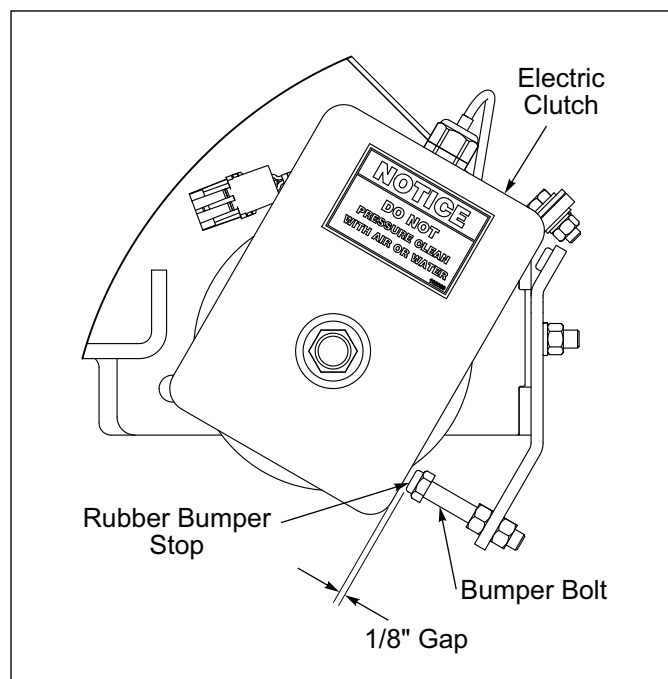

Figure 2-18: Clutch Clearance
1. Verify that the Electric Clutch has 1/8" clearance between the Clutch Housing and Rubber Bumper Stop. Improper clearance may prevent the Clutch from engaging or disengaging. **See Figure 2-18.**